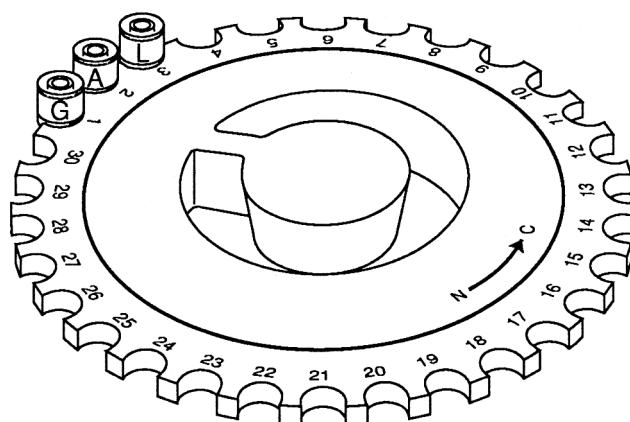

Figure 23. Load the amino acid columns for the test peptide, LAGV.
This means that with LAGV, for example, the C-terminal amino acid, V, is the first amino acid in the sequence and goes in the PSC position. As synthesis progresses, G, A, and L are attached to V, in that order (Figure 23).
5. Remove the amino acid column wheel from Synergy and remove the calibration column from position one. Place the amino acid column (ACC) labelled “G” in position 1, place the AAC labelled “A” in position 2, and place the AAC labelled “L” in position 3 (Figure 23).